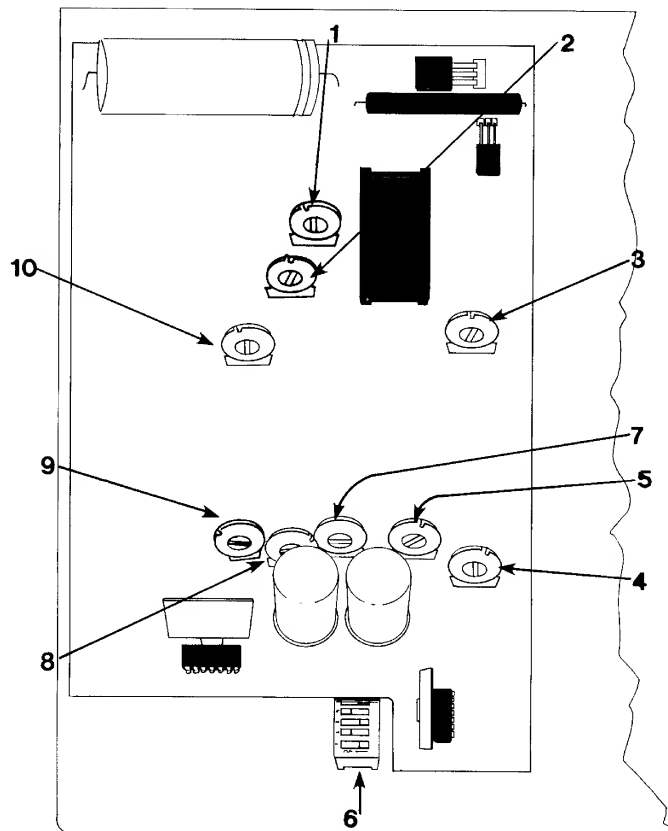

Figure 2: Audio Board Adjustments
CRASH has three switch selectable options. These are controlled by a seven segment DIP switch located on the main logic board at position 14A (see Figure 2, item 6). This switch is accessible from the front of the game though the coin door.
### IV. AUDIO ADJUSTMENTS (Figure 2)